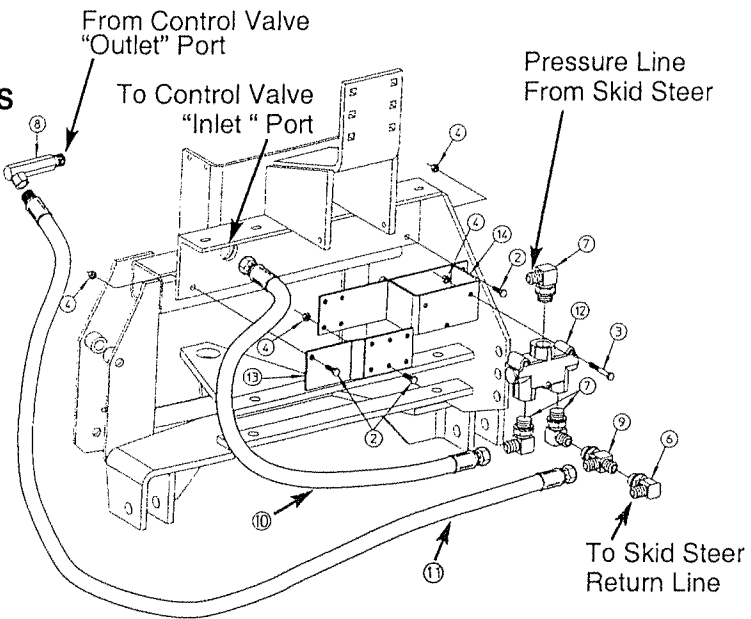

Figure 7
8600 and 9600 Backhoes – Assemble the 31" long hydraulic hose (11) from the backhoe "Outlet Port" to the Tee hydraulic fitting (9) located on the Flow Divider Valve. See Figures 7 or 8.